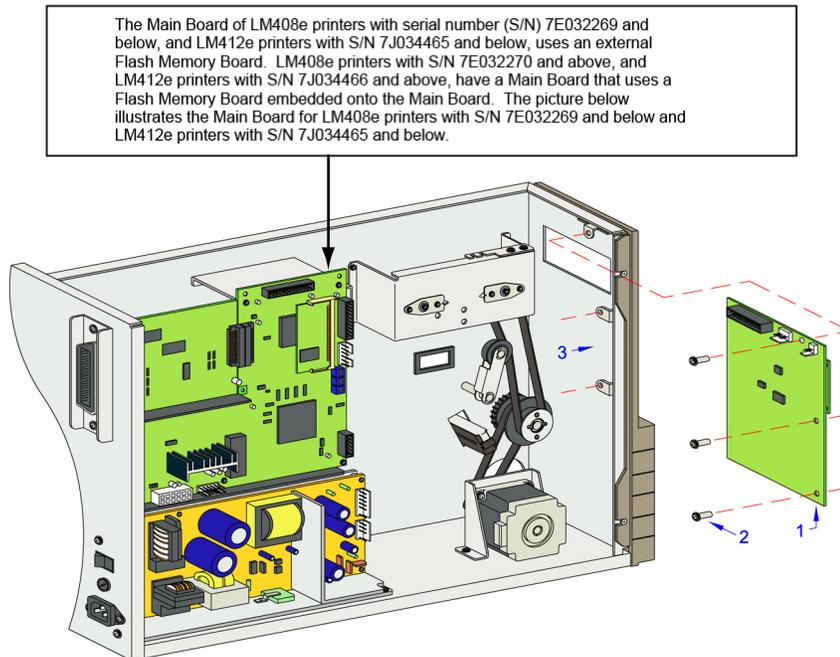

Figure 7-10a, Panel & LCD Board Replacement
3. Disconnect all wiring harnesses from defective panel board (1, Figure 7-10a) from other printer components.
4. Remove three screws (2) securing defective panel board (1) to the printer frame (3). Lift away board (1).